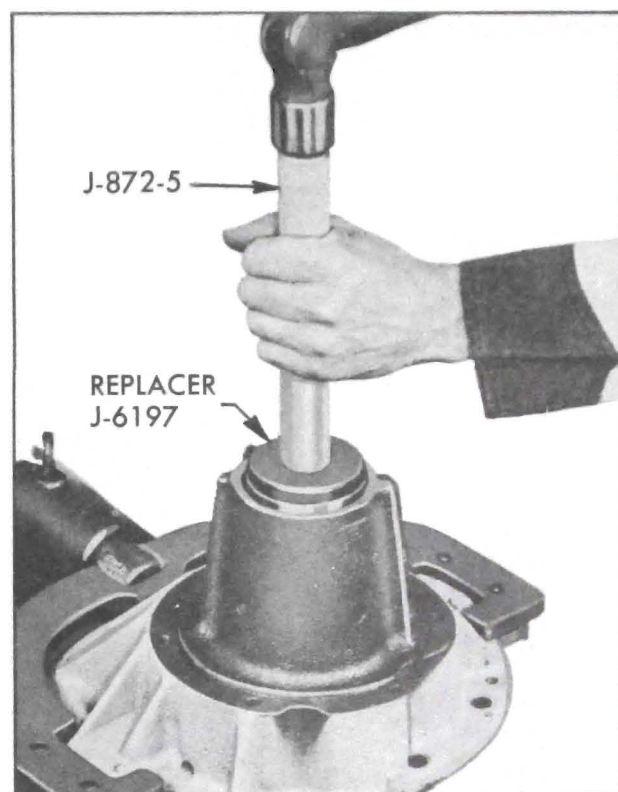

Figure 6-20—Installing Front Pinion Bearing Outer Race
1. Drive front pinion bearing outer race against shoulder in carrier using Replacer J-6197 with driver handle. See figure 6-20.